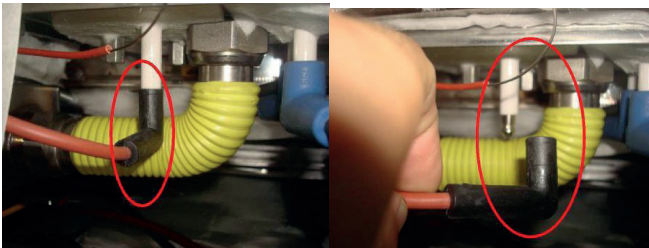

Figure 20
- Disconnect the terminal of the flame control electrode as shown in Figure 20;